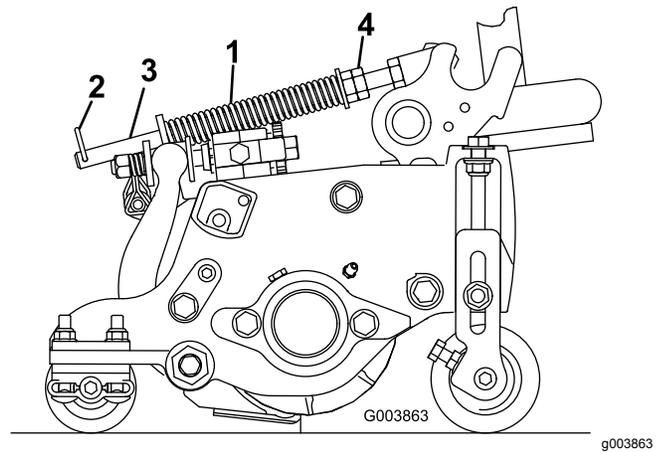

Figure 14
2. Tighten the hex nuts on the front end of the spring rod until the compressed length of the spring is 12.7 cm (5 inches) for 5-inch cutting units or 15.9 cm (6.25 inches) for 7-inch cutting units (Figure 14).
The turf-compensation spring transfers weight from the front to the rear roller (Figure 14). This helps to reduce a wave pattern in the turf, also known as marcelling or bobbing.
1. Make sure that the hairpin cotter is installed in the rear hole in the spring rod (Figure 14).